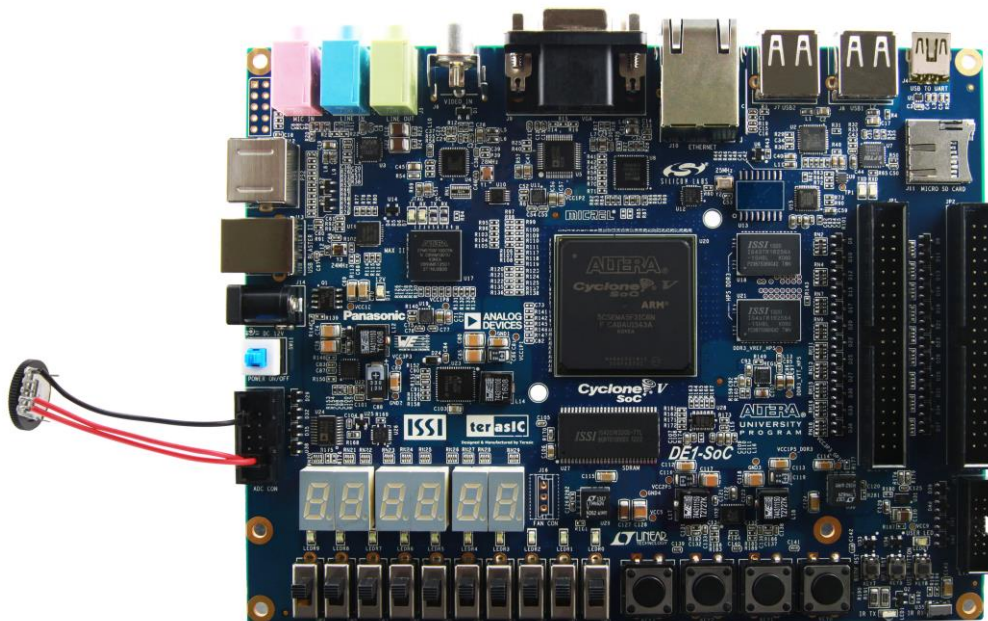

Figure 5-21 Hardware setup for the ADC reading demonstration
- Connect the trimmer to corresponding ADC channel on the 2x5 header, as shown in **Figure 5-21**, as well as the +5V and GND signals. The setup shown above is connected to ADC channel 0.